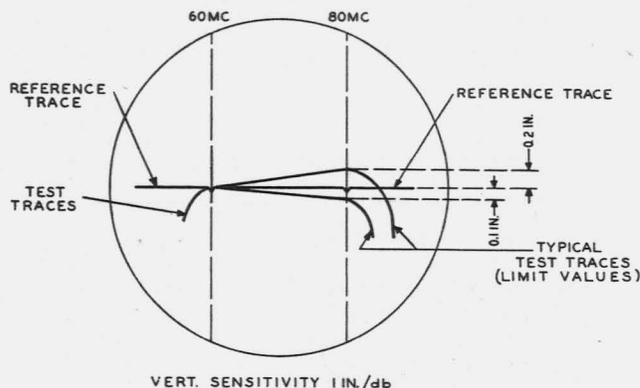

Fig. 4 - Gain-Frequency Characteristic for IF Switching and Distributing Amplifier
3.06 Inspect the gain-frequency characteristic by comparison of the test and reference traces between the 60 and 80 mc frequency markers with reference to the requirements listed below. If the test trace lies above the reference trace at 80 mc, the gain is positive at 80 mc relative to 60 mc. If the test trace lies below the reference trace at 80 mc, the gain is negative at that frequency with respect to 60 mc. The test trace should not show appreciable deviation from a straight line between the 60 and 80 mc markers unless the same deviation from straightness is present in the reference trace. Fig. 4 shows the gain-frequency characteristic as presented by the test and reference traces on the oscilloscope. The upper test trace represents the upper limit and the lower test trace represents the lower limit.